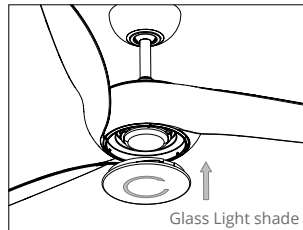

FIG.16
1. Securely attach the LED wires to the wires coming from the motor. Male to male and female to female (**FIG.16**).